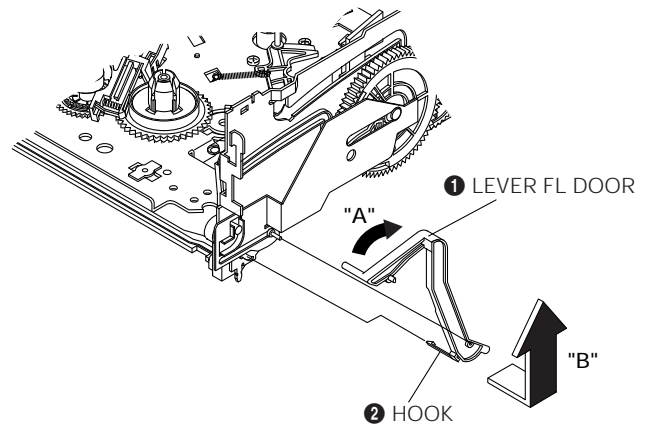

Fig. 1-5 Lever FL Door Removal
- 1) Remove the Lever FL Door. (Refer to Fig. 1-5)
- 2) Pull the Holder FL Cassette Ass'y ❶ to the eject position.
- 3) Pull the Holder FL Cassette Ass'y ❶ as grasping the Holder FL Cassette Ass'y ❶ and Lever FL Cassette-R ❷ in the same time to release hooking from Main Base until the Boss [A], [B] of Holder FL Cassette Ass'y ❶ is taken out from the Rail [C], [D].
- 4) Lift the Holder FL Cassette Ass'y ❶ in the direction of arrow "B" in this time, you have to grasp the Lever FL Cassette-R ❷ continuously until the Holder FL Cassette Ass'y ❶ is taken out completely.
**Note** : Be sure to insert Lever FL Cassette-R ❷ in the direction of "A" to prevent separation and breakage of the Lever FL Cassette-R ❷ at disassembling and reassembling.